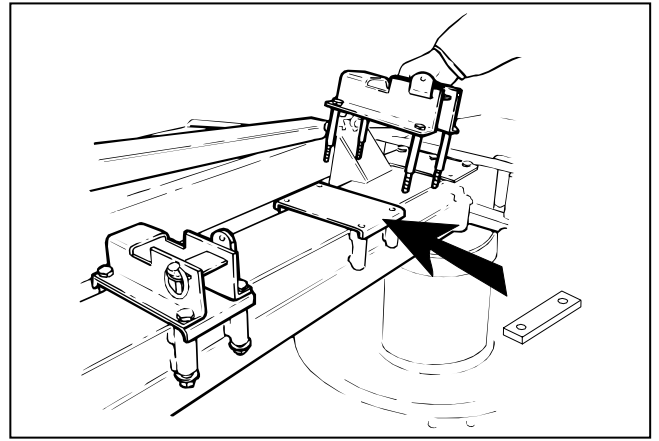

Fig. 28
- FIG. 28**      Bracket for mounting of conditioner and distance plate for a large stubble height.